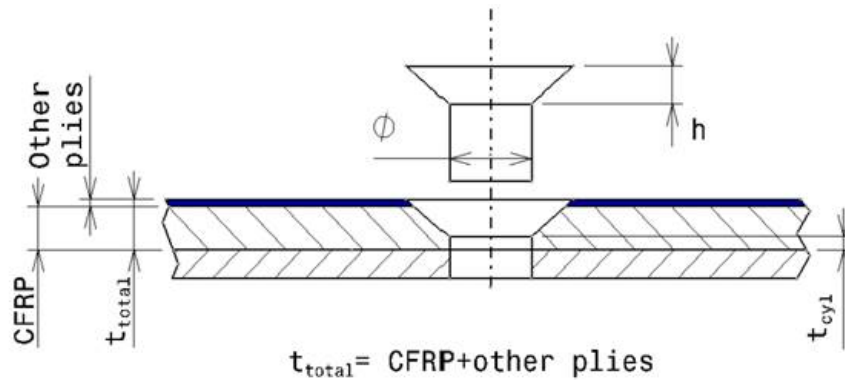

Figure 2: Minimum cylindrical thickness
- 4.1.4 For countersunk fasteners, there is a minimum cylindrical thickness (t_{cyl}) to leave in the part where the head is housed as defined in Figure 2.